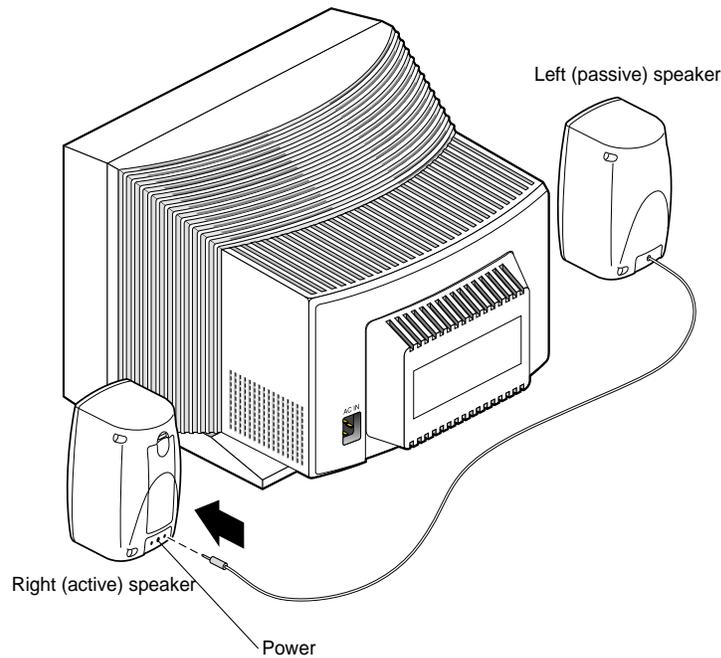

Figure 6-16 Setting Up the Speakers
3. Attach the left (passive) speaker cord to the right (active) speaker. Use the port marked L, as shown in Figure 6-16.